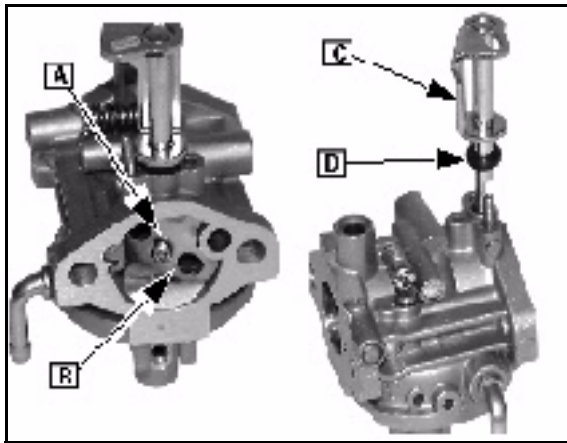

Fig. 113
8. Remove screw (A), choke plate (B), choke shaft (C) and choke shaft seal ([D] Fig.113).